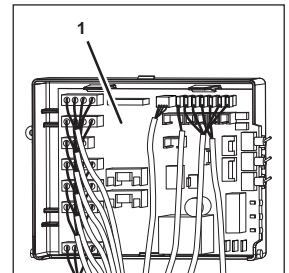

Fig. 59
2. Disconnect all necessary electrical cables and plugs from the control system (Fig. 59/1).
8. Connect all electrical cables and plugs of the control system (Fig. 59/1).